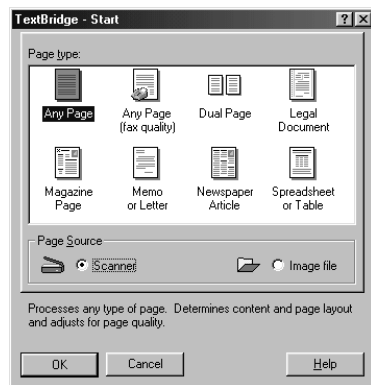

Figure 44: Selecting 'Page Source'
4. Set 'Page Source' to 'Scanner' by clicking with the mouse (Figure 44).